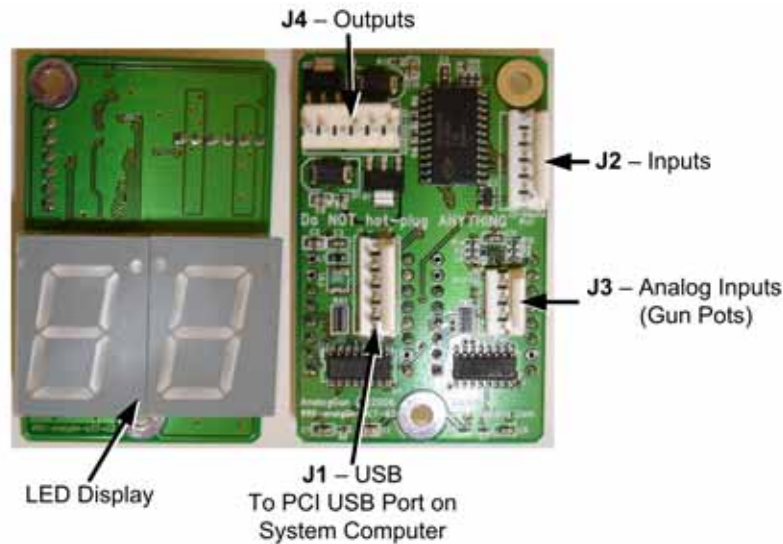

Figure 37. Gun PCB, Version 5.01
1. To close the gun case, first align the slots that fit around the gun PCB (the small PCB with the LED display shown in Figure 37), and then carefully put the two halves together. Make sure no wires or components get caught or pinched. Pay special attention to the area around the trigger and spring, the wires coming out of the frame shaft, and the wires attached to the coil and gun barrel LED light.
The Gun PCB routes all signals within the gun, and between the gun and the system computer. It also has an LED display. Each connector on the Gun PCB is keyed to fit only to the correct harness connector. Refer to Figure 37 to locate the connectors on the PCB (layout varies depending on PCB version). See Figure 51 on page 67 for detailed gun wiring information.